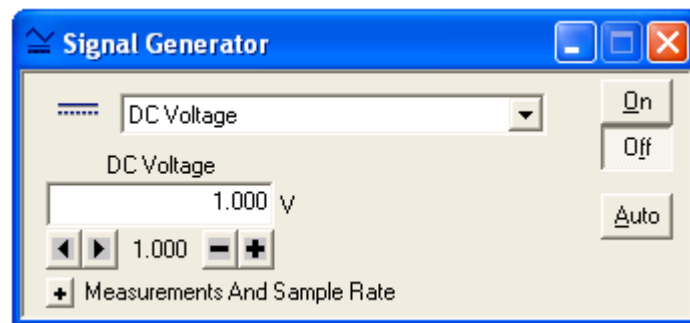

Figure 4 Signal Generator Window
- 3) Select the Signal Generator window by clicking in that window. The Signal Generator window is shown in Figure 4. Turn on the signal generator by clicking on the ON button. Make sure “DC Voltage” is selected. Set the DC voltage to 1 V by clicking on the small up arrow next to the voltage setting.